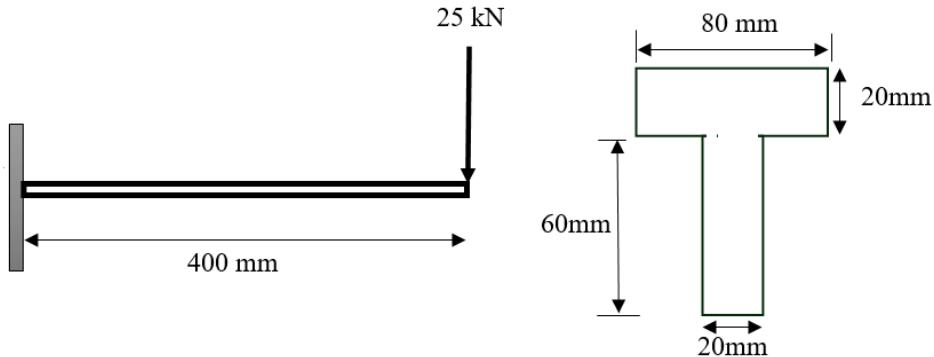

Figure 3(b) / Rajah 3(b)
- CLO2 (b) A cantilever T shape beam 400 mm long supports a load of 25 kN at the end of beam as illustrated in Figure 3(b). Calculate: